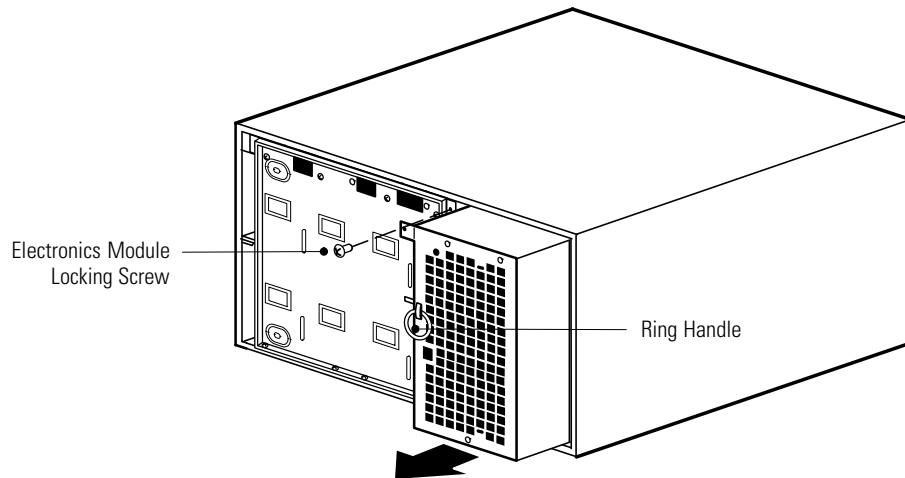

Figure 21. Removing the Electronics Module
- Remove the electronics module and set it aside (see Figure 21):
17. Reinstall the electronics module locking screw (see Figure 21 on page 34).